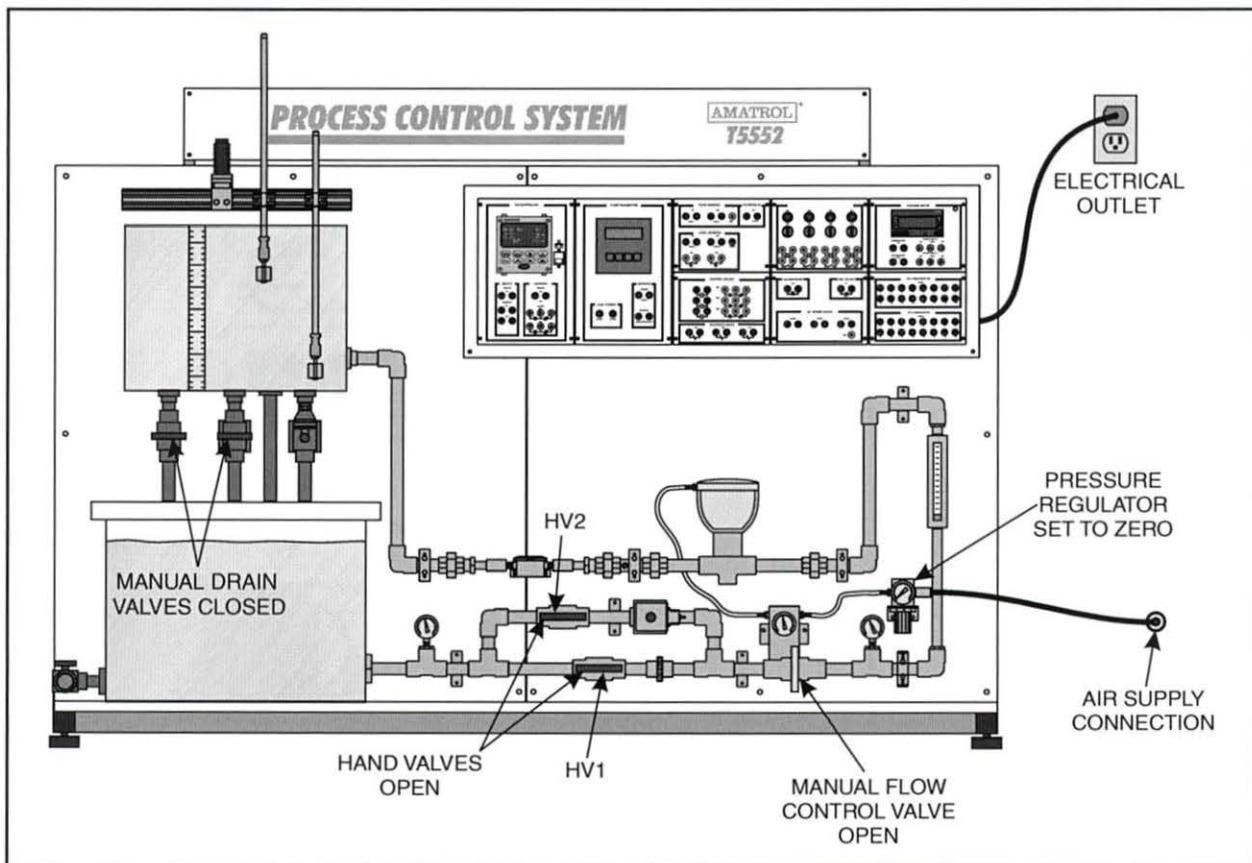

Figure 40. T5552 Setup
- 2. Perform the following substeps to set up the T5552, as shown in figure 40.